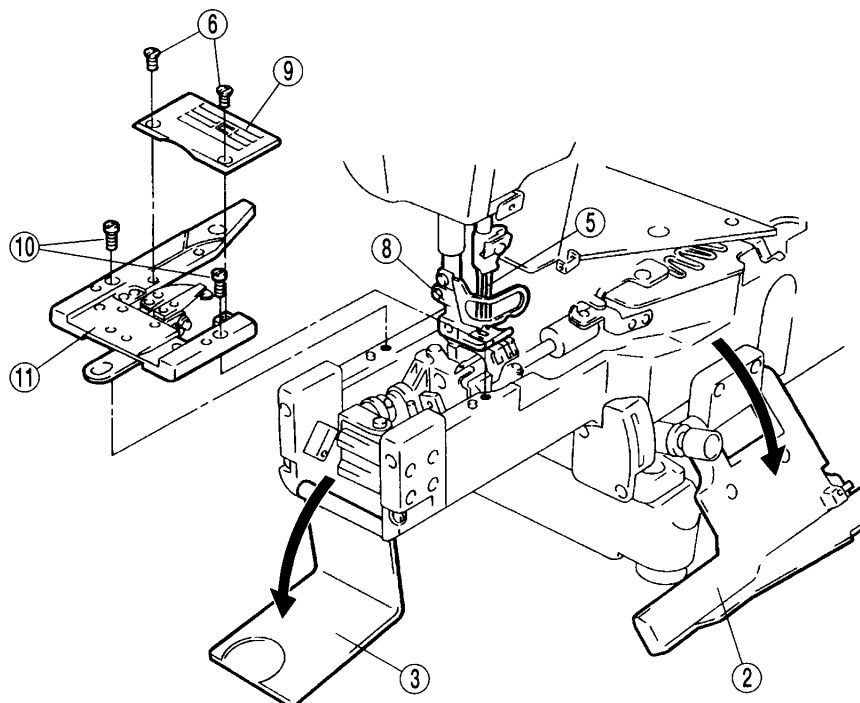

Fig.8
3. Fit bracket ⑥ onto the machine by referring to Fig. 8 on the previous page.